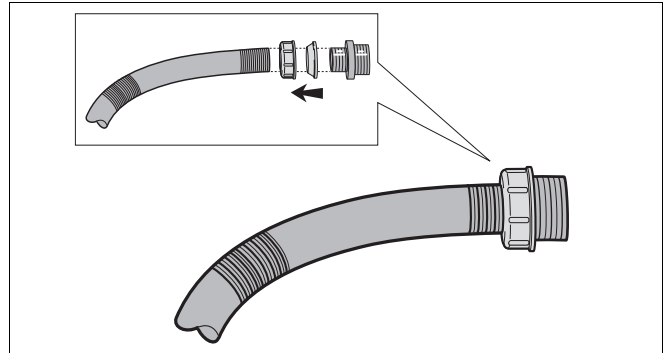

fig. 8 Hose assembly
- Assemble hose as shown in fig. 8.